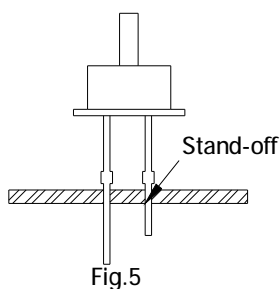
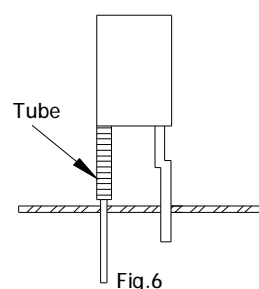

Fig.5
Fig.6
- 5) Use LEDs with stand-off (Fig.5) or the tube or spacer made of resin (Fig.6) to position the LEDs.